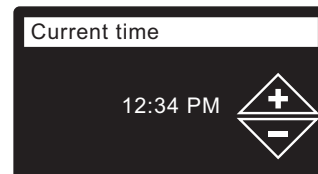

FIG. 21
- CURRENT TIME** Press the DOWN (▼) or UP (▲) buttons to set the current time (See Figure 21). Hold the button down to rapidly advance. Be sure that AM or PM is correct. If the system units were set to metric in Step 17, the clock will be in 24-hour format.
- Press the SELECT (O) button.